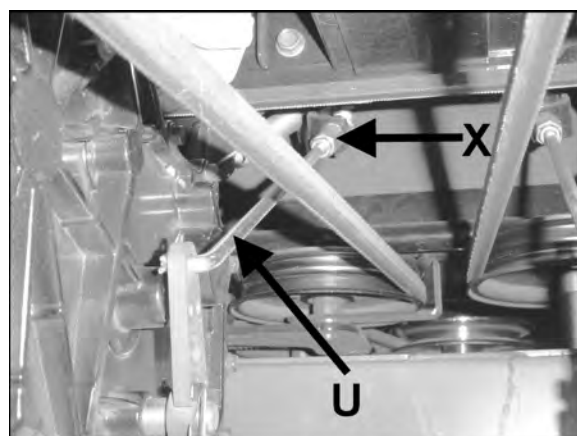

FIGURE 2
5. Hold brake arm in the **OFF** position as shown in Figure 2.